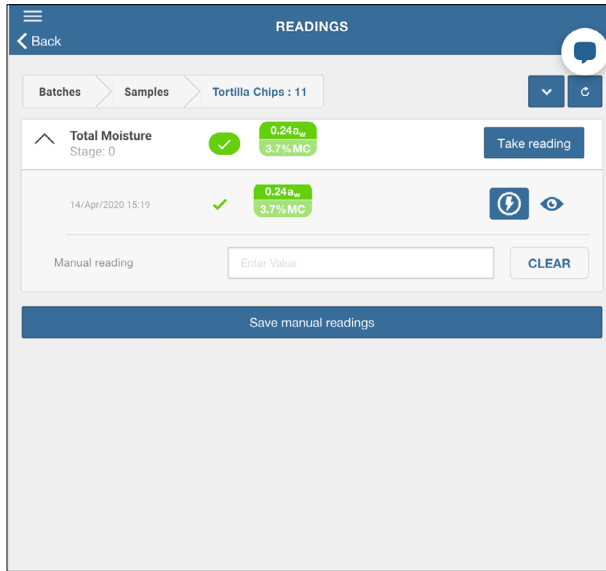

Figure 62 Take reading on Readings window
6. Select the **Take reading** button to start the reading process (Figure 62).